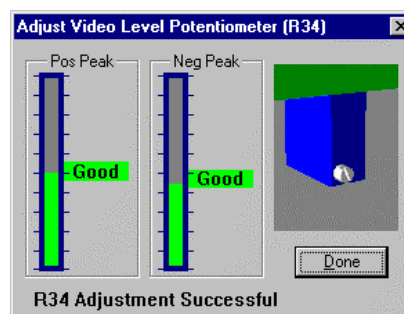

Figure 8-18 Adjust Video Level Potentiometer (R34) Window
- a. The first adjustment is for the Video Level; see Figure 8-18.